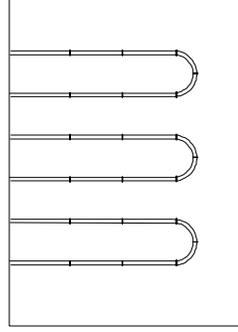

Figure 5
3. Staple the tubing as necessary along the straight runs to ensure that it will stay in place (additional staples will be added later). At the 180° turns, secure one staple at the top of the arc and two staples, one on each side, 12" below the top of the arc (see Figure 5).